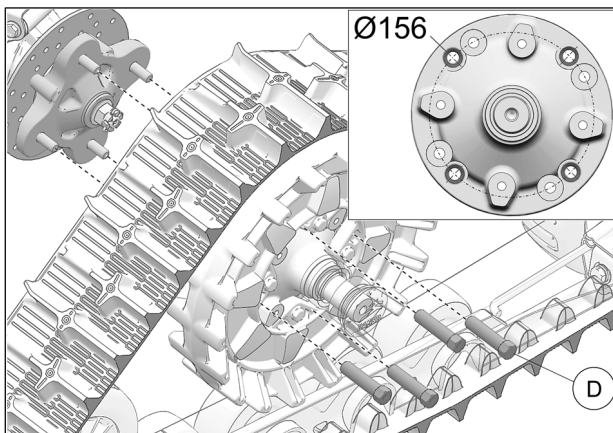

Fig. 10
9. Secure undercarriage to rear hub using the provided M12 lug nuts (D). Use bolt circle  $\text{\O}156$  mm. See Fig. 10